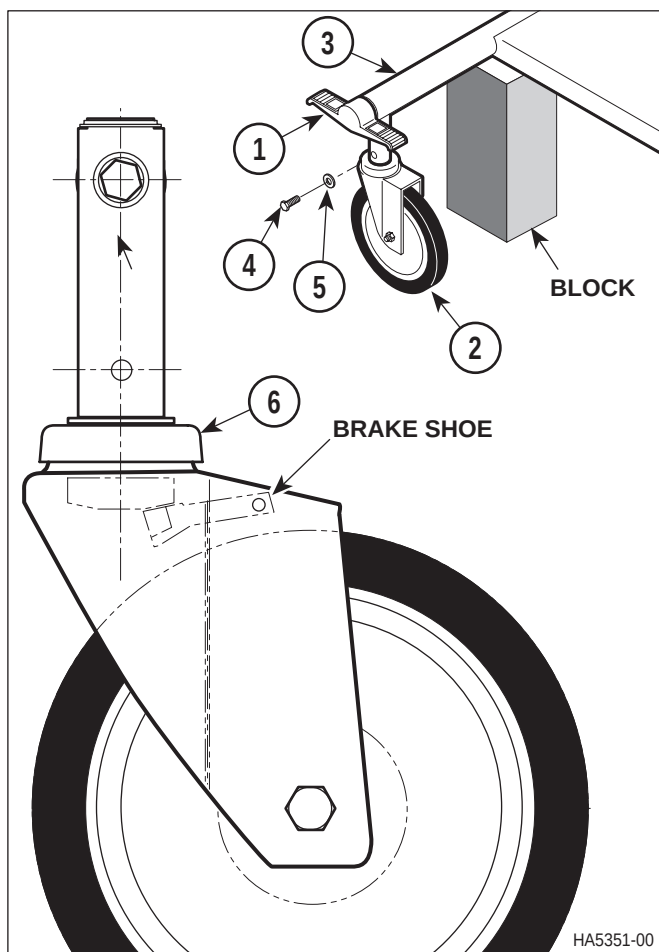

Figure 4-25. Caster Brake Adjustment
- (1) Move caster control pedal (1, Figure 4-25) to "brake" position.
- (2) Raise caster assembly (2), which is going to be adjusted, off of floor, and support chassis (3) at that height with a block.